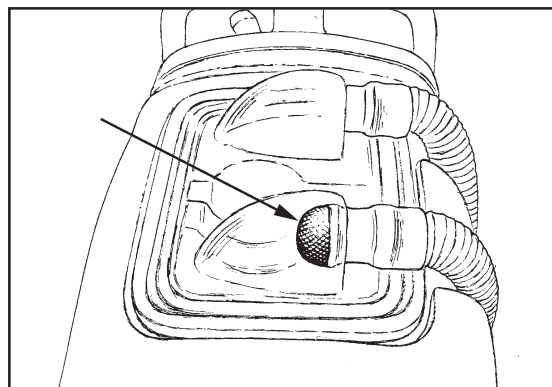

Figure 30
3. Make sure the screen filter is installed properly in the recovery lid and is clean (See figure 30).
4. Make sure the recovery tank lid is on correctly (See Figure 30).